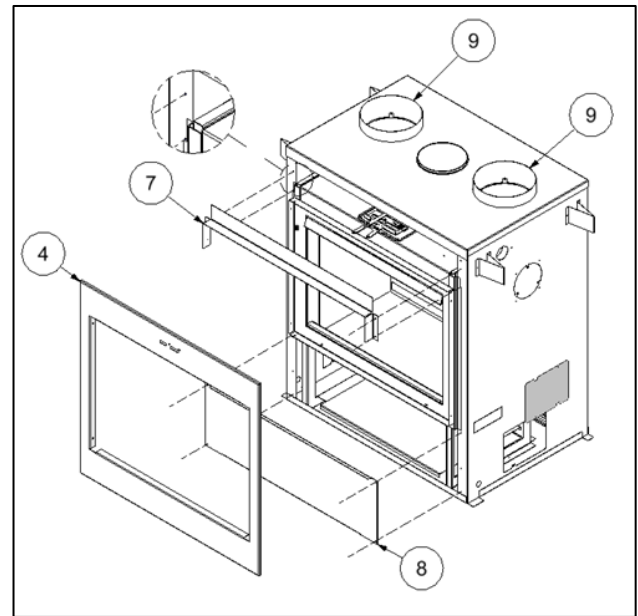
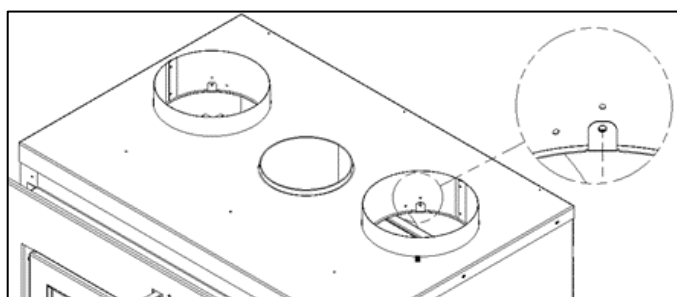

Figure 3-17: Clean Face Surround Installation
Figure 3-22: Installation of 8 Inch Duct Adapters
2. Align the Clean Face lower cover (Item 8) and fasten it in place (Figure 3-17).
3. Bend the ends of the Clean Face upper cover (Item 7), align it and fasten it in place (Figure 3-17).
10. Install the 8 inch duct adapters (Item 9 in Figure 3-17) through the newly cut knockouts and screw them to the bent tabs (Figure 3-22).